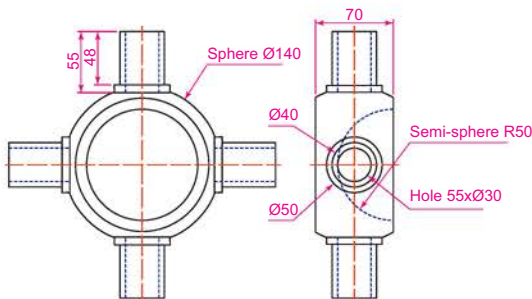
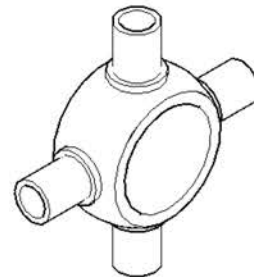

Fig. 10.15 Exercise 2 – working drawing
Fig. 10.16 Exercise 2
- Using the tools **Sphere**, **Box**, **Union** and **Subtract** and working to the dimensions given in Fig. 10.15, construct the 3D solid model as shown in the isometric drawing Fig. 10.16.